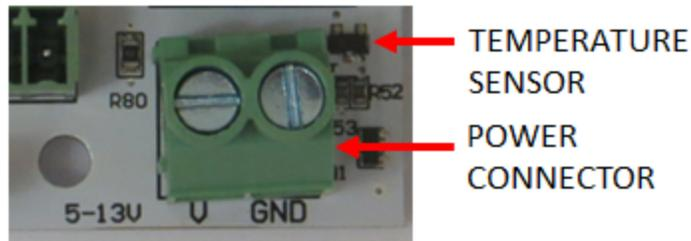

Figure 4-20: Temperature Sensor Location
2. CPU Temp is the temperature of the processor on the CDT.Map.4. This is displayed in both degrees Celsius (C) and Fahrenheit (F).
3. Temp1 is the Temperature as measured by the sensor which is located by the Power Connector input (see Figure 4-20). This is displayed in both degrees Celsius (C) and Fahrenheit (F).